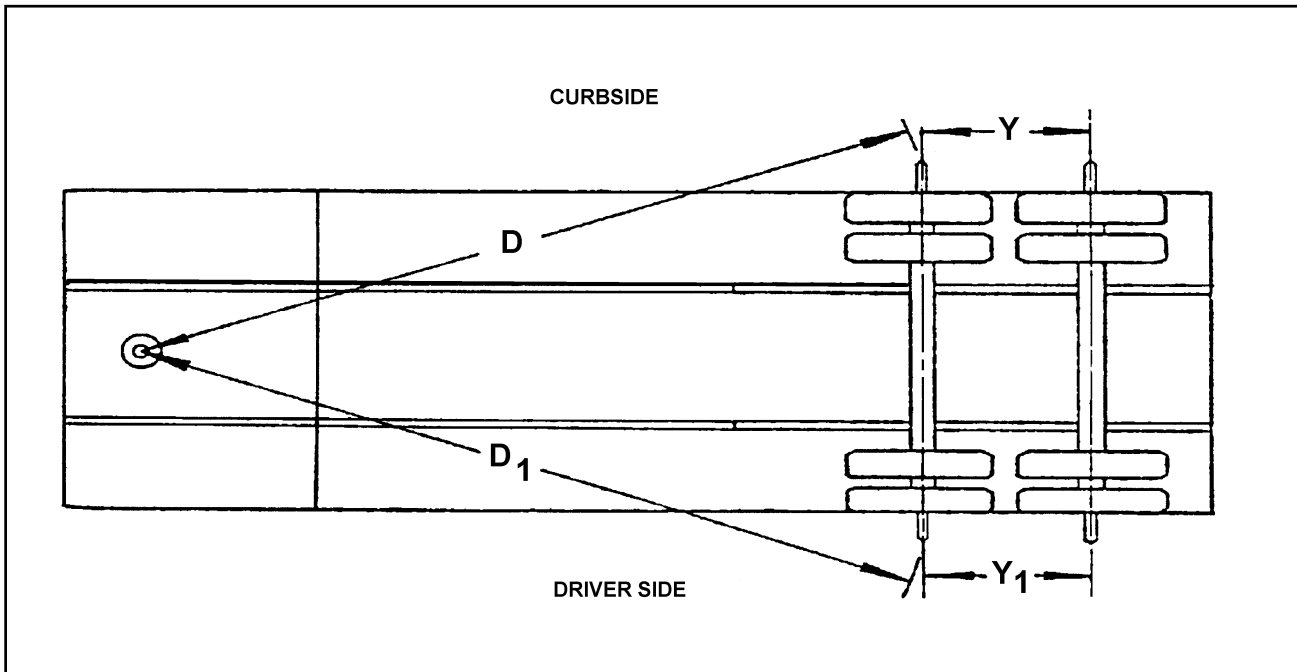

Figure 4-9 Checking Axle Alignment
4. Measure (D) from the plumb bob to the center point on one end of the axle. Record this measurement (See Figure 4-9).
5. Measure (D1) to the other end of the axle in the same manner as in Step 4. Record this measurement (See Figure 4-9).